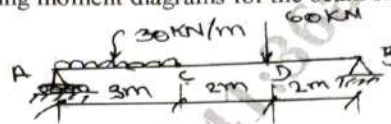

Fig.Q.5(b)
- b. Draw shear force and bending moment diagrams for the beam shown in the Fig.Q.5(b).